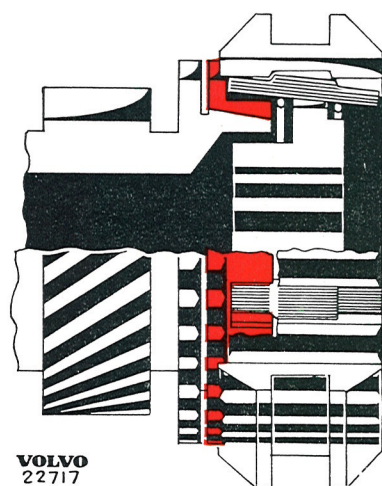

Fig. 4-20. Synchronizing
The inserts (4) then press the synchronizing cone (2) against the cone on the gear (1). If the hub and gear are rotating at different speeds, the synchronizer will turn in relation to the engaging sleeve. The synchronizer is, however, prevented from turning more than half a tooth-width by the engaging springs, see Fig. 4-20.